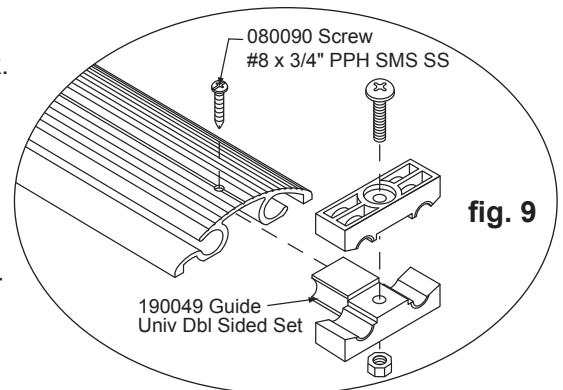

fig. 9
5.3 Install the track guides. (fig. 9)